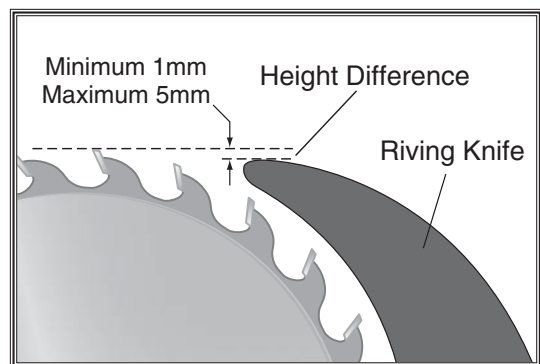

Figure 52. Height difference between riving knife and blade.
When properly mounted, the riving knife is positioned below the blade's highest point of rotation, as shown in **Figure 52**.
7. Position the riving knife about 3mm or 1/8" away from the nearest saw tooth on the main blade, and make sure the top of the riving knife is positioned below the blade's highest point of rotation, as shown in **Figure 52**.